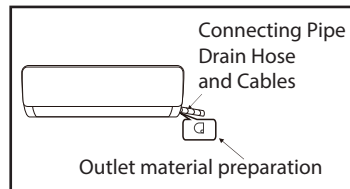

Fig 1
1. Depending on the position of the unit, the piping may be routed sideways from the left or the right (Fig 1), or vertically from the back (Fig 2)(depending on the pipe length of the indoor unit). In the case of sideways routing, cut off the outlet cutting stock of the opposite side.